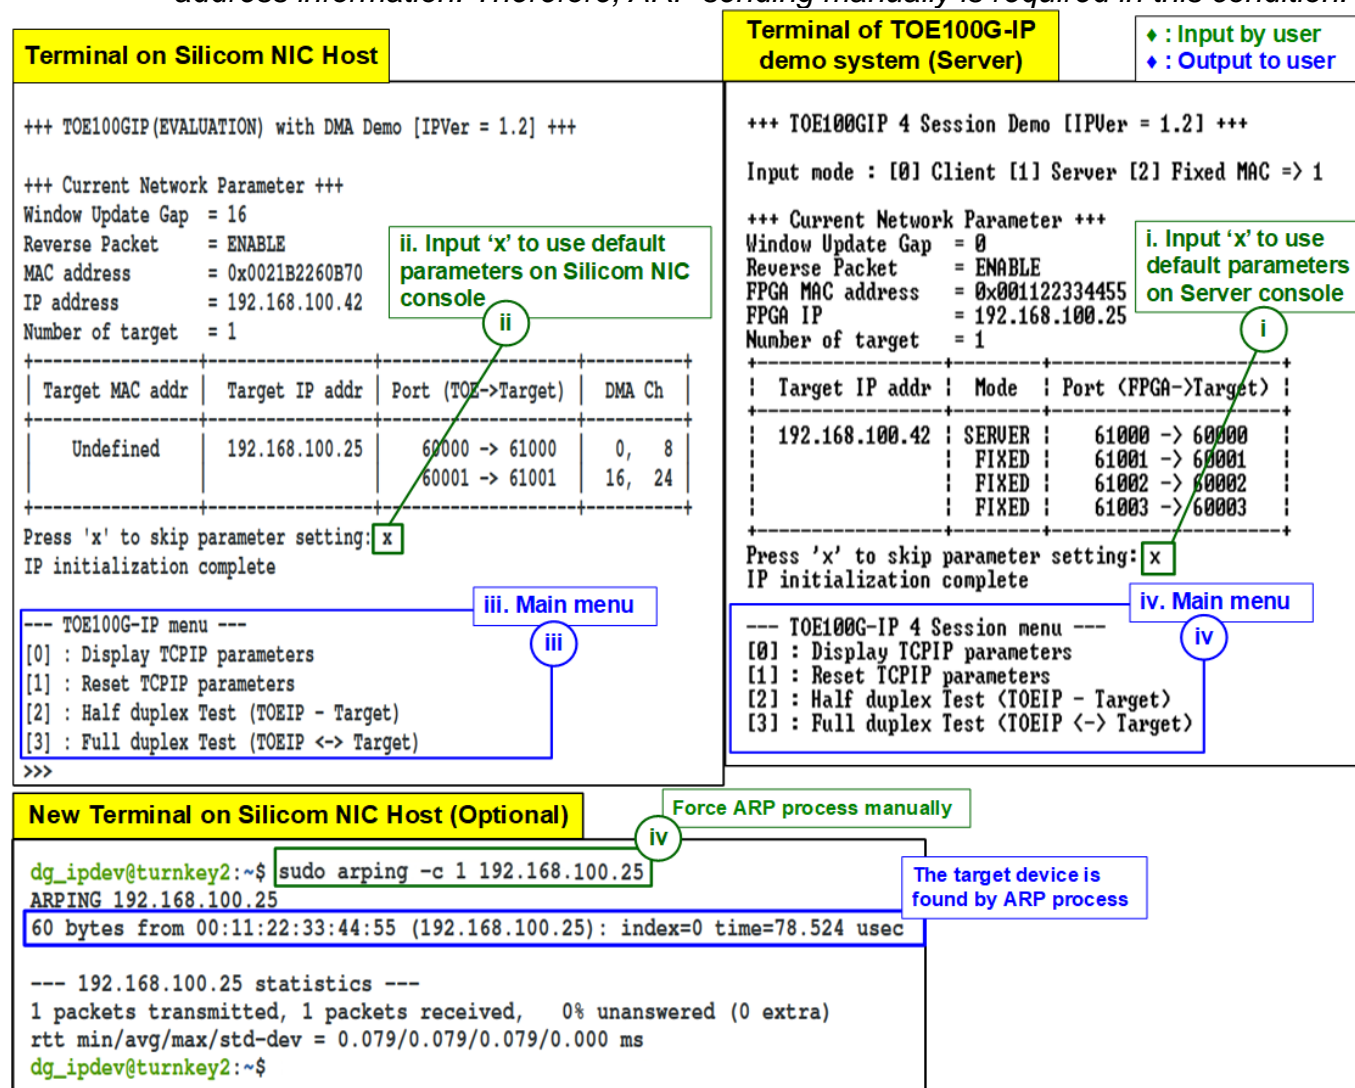

Figure 4-3 Main menu of TOE100G-IP demo
- 4) Input 'x' to use default parameters or other keys to change parameters. The parameters of Server mode must be set before the other side starts initializing. Please run the following step to complete the initialization process, as shown in Figure 4-3.